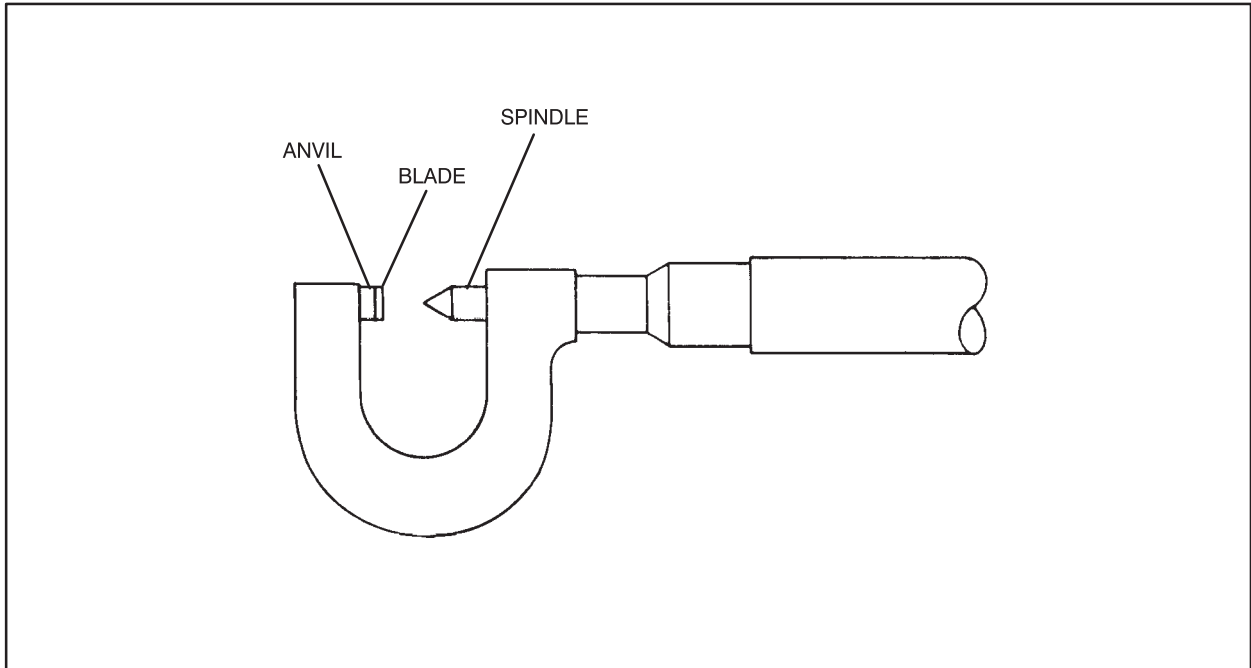
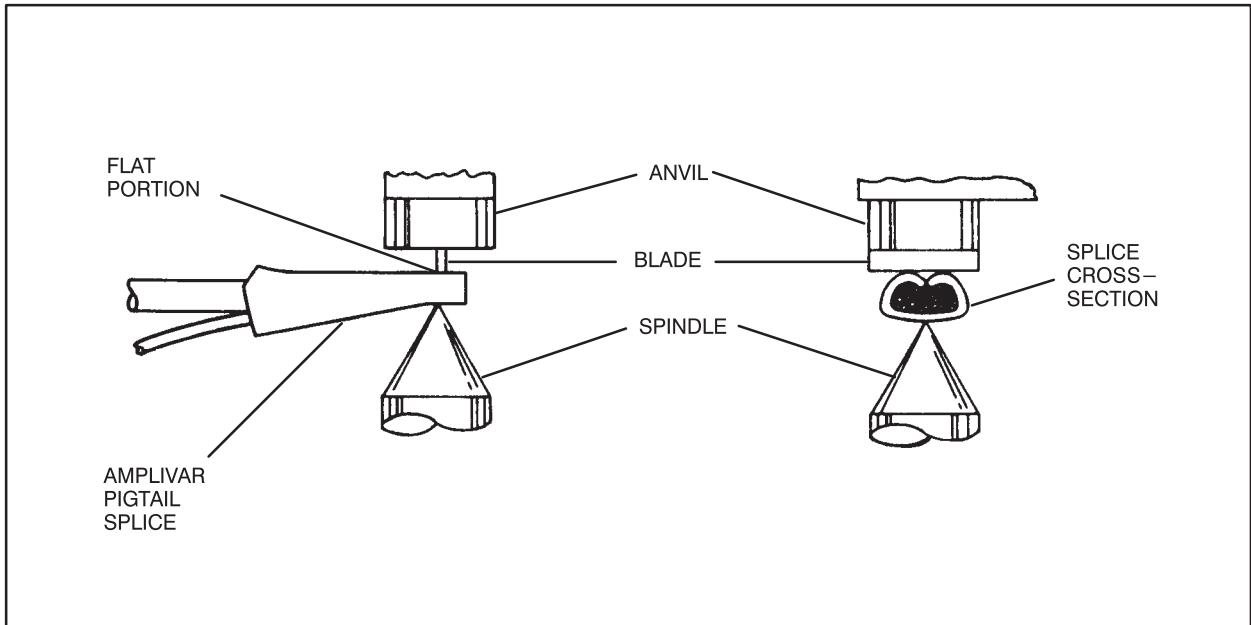

Fig. 3-5. Crimp Height Comparator
Fig. 3-6. Crimp Height Measurement
2. Using a crimp height comparator as shown in Figure 3-5, measure the crimp height of the termination as shown in Figure 3-6. The crimp height must be within $\pm .003$ in. of the measurement specified for the type terminal and size wire being used, as obtained from your AMP Field Engineer. If a common crimp height is used for several different terminal combinations, the crimp height must be $\pm .001$ in.